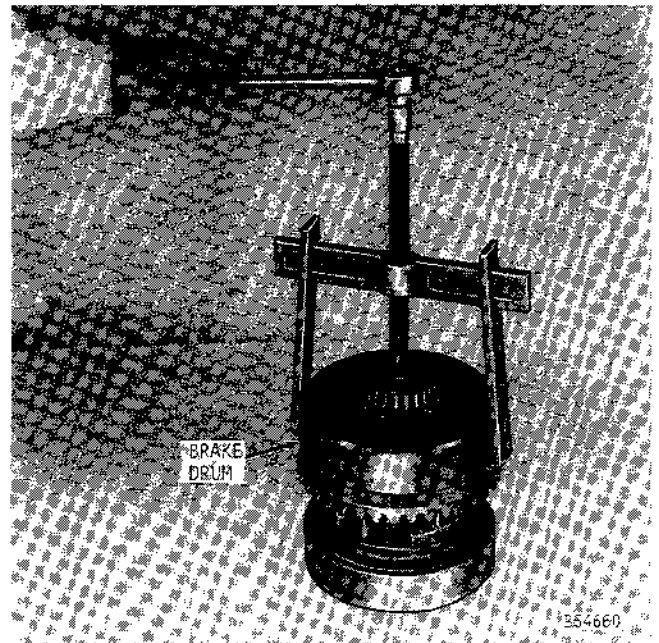

Figure 9 - Removing Drum
10. Roll differential gear assembly from case, taking care to not nick the brake drums. If drums are nicked or scored they should be replaced. Use puller; this will also remove bearing cone, Figure 9.